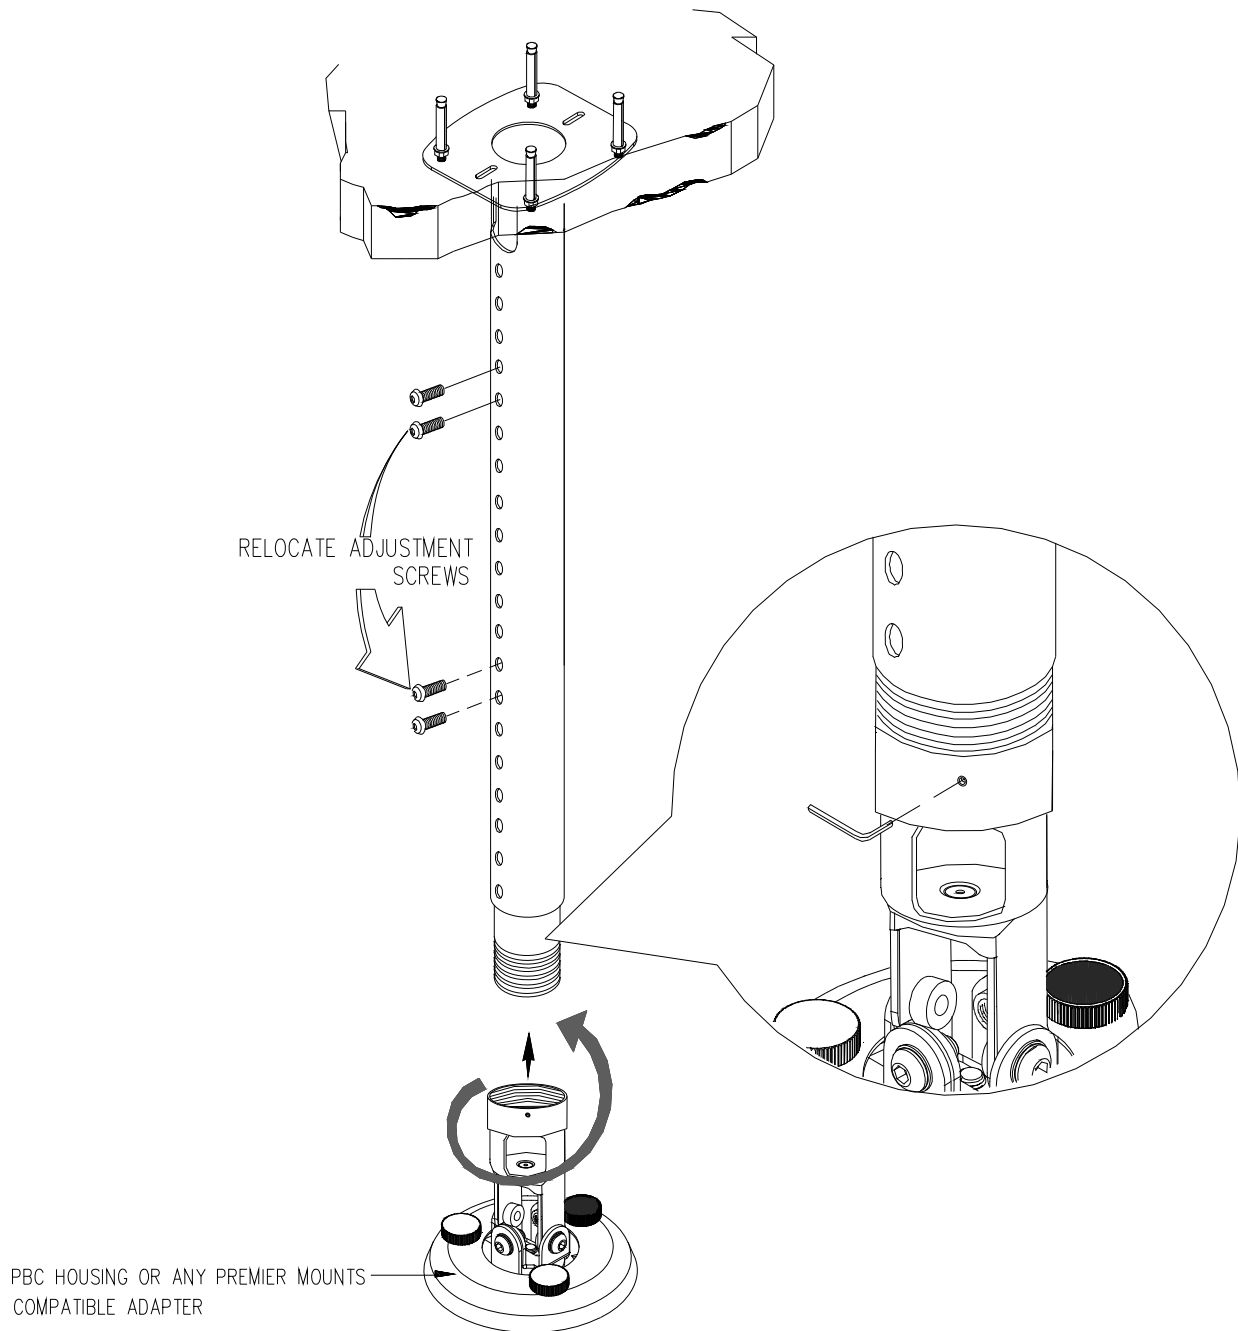

Figure 2
4. Refer to the PBC installation instructions to complete the installation. (See figure 2)